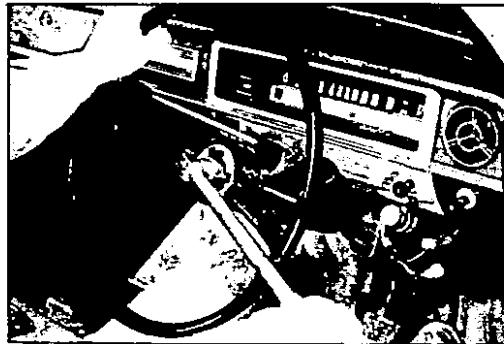

Fig. K.3 Removing the steering wheel nut.
1. Take out the retaining bolts and remove the horn ring, remove the steering wheel nut (Fig.K.3.) and pull off the steering wheel. The special tool ST 27180000 should be used, if available.